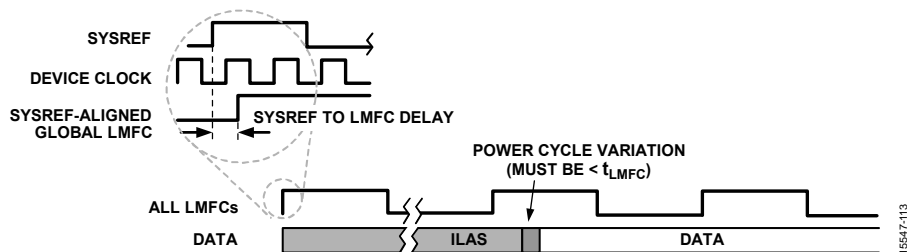

Figure 118. SYSREF and LMFC
The JESD204B protocol organizes data samples into octets, frames, and multiframe as described in the Transport Layer section. The LMFC is synchronous with the beginnings of these multiframe. In Subclass 1 operation, the SYSREF is used to synchronize the LMFCs for each device in a link or across multiple links (within the AD9208, SYSREF also synchronizes the internal sample dividers), as shown in Figure 118. The JESD204B receiver uses the multiframe boundaries and buffering to achieve consistent latency across lanes (or even multiple devices), and also to achieve a fixed latency between power cycles and link reset conditions.
- The total latency variation across all lanes, links, and devices must be ≤ 1 LMFC periods (see Figure 118). This includes both variable delays and the variation in fixed delays from lane to lane, link to link, and device to device in the system.